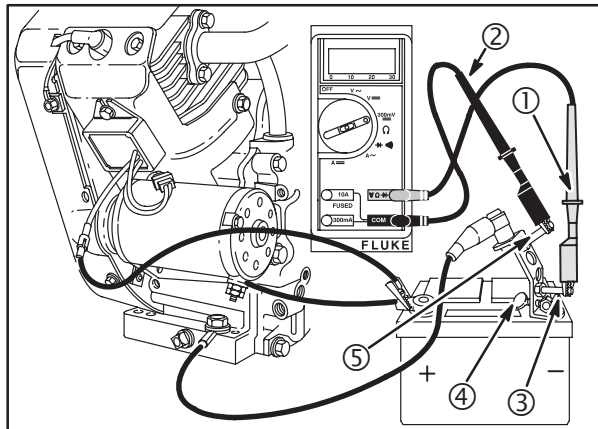

Fig. 28
The DC shunt **MUST** be installed to the **NEGATIVE** (-) terminal of the battery, **Fig. 28**. All connections must be clean and tight to obtain accurate readings.
3. Insert RED test lead (1) into **VΩ** receptacle in meter. Connect to RED post terminal (3) on shunt, **Fig. 28**.
4. Insert BLACK test lead (2) into **COM** receptacle in meter and connect to BLACK post terminal (5) on shunt.